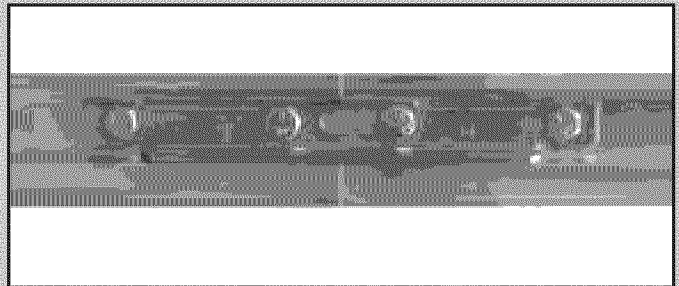
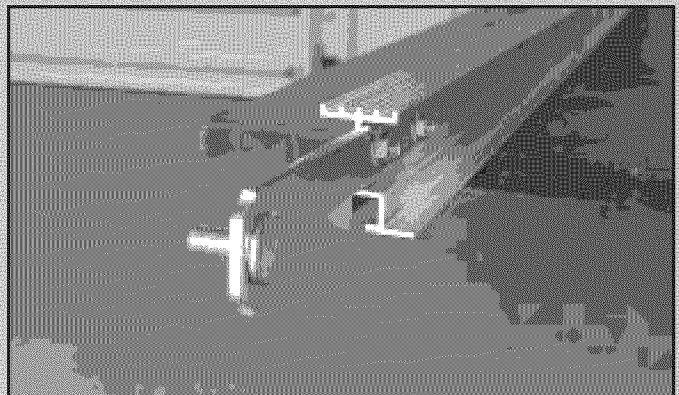

FIG. 1-3 Attach rail clamps.
FIG. 1-4 Attach rail strap.
**3. Attach rail clamps to rail (Fig. 1-3).**
- Fasten each pair with 4 bolts (9) and nuts (10).
**4. Attach rail strap (Fig. 1-4).**
- Place 2 bolts (9) through rail strap and rail.
- Securely tighten bolts and nuts (10).